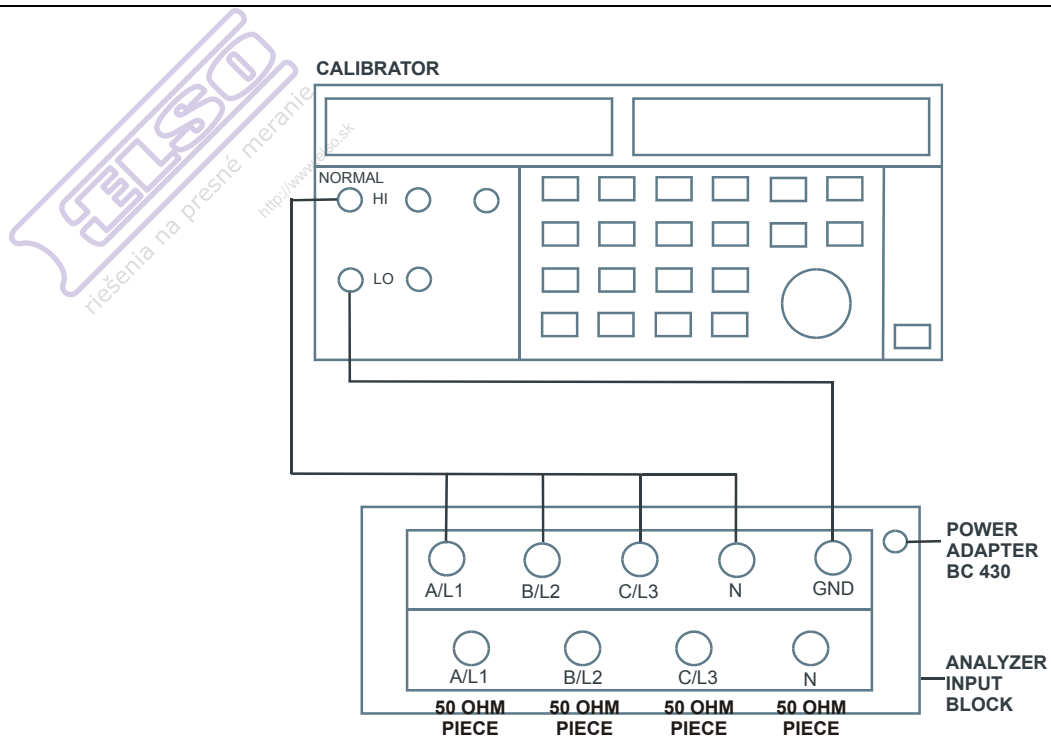

Figure 3-5. Checking the Channel isolation.
3. Short-circuit the four current inputs with a termination piece of 50 Ω or lower. Refer to Figure 3-5.